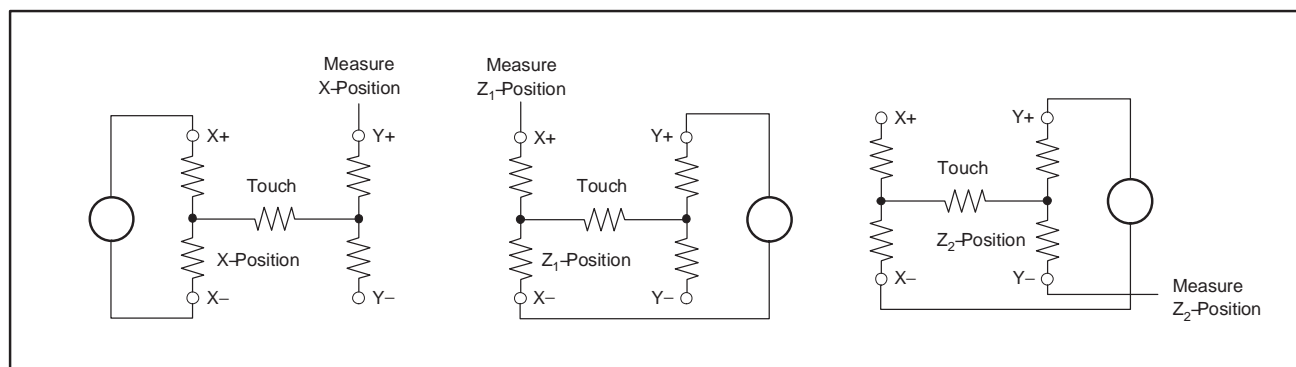

Figure 8. Pressure Measurement Block Diagrams
Measuring touch pressure can also be done with the TSC2046E. To determine pen or finger touch, the pressure of the touch needs to be determined. Generally, it is not necessary to have very high performance for this test; therefore, the 8-bit resolution mode is recommended (however, calculations shown here are in the 12-bit resolution mode). There are several different ways of performing this measurement. The TSC2046E supports two methods. The first method requires knowing the X-plate resistance, measurement of the X-Position, and two additional cross panel measurements (Z_1 and Z_2) of the touch screen, as shown in Figure 8. Using Equation (3) calculates the touch resistance: